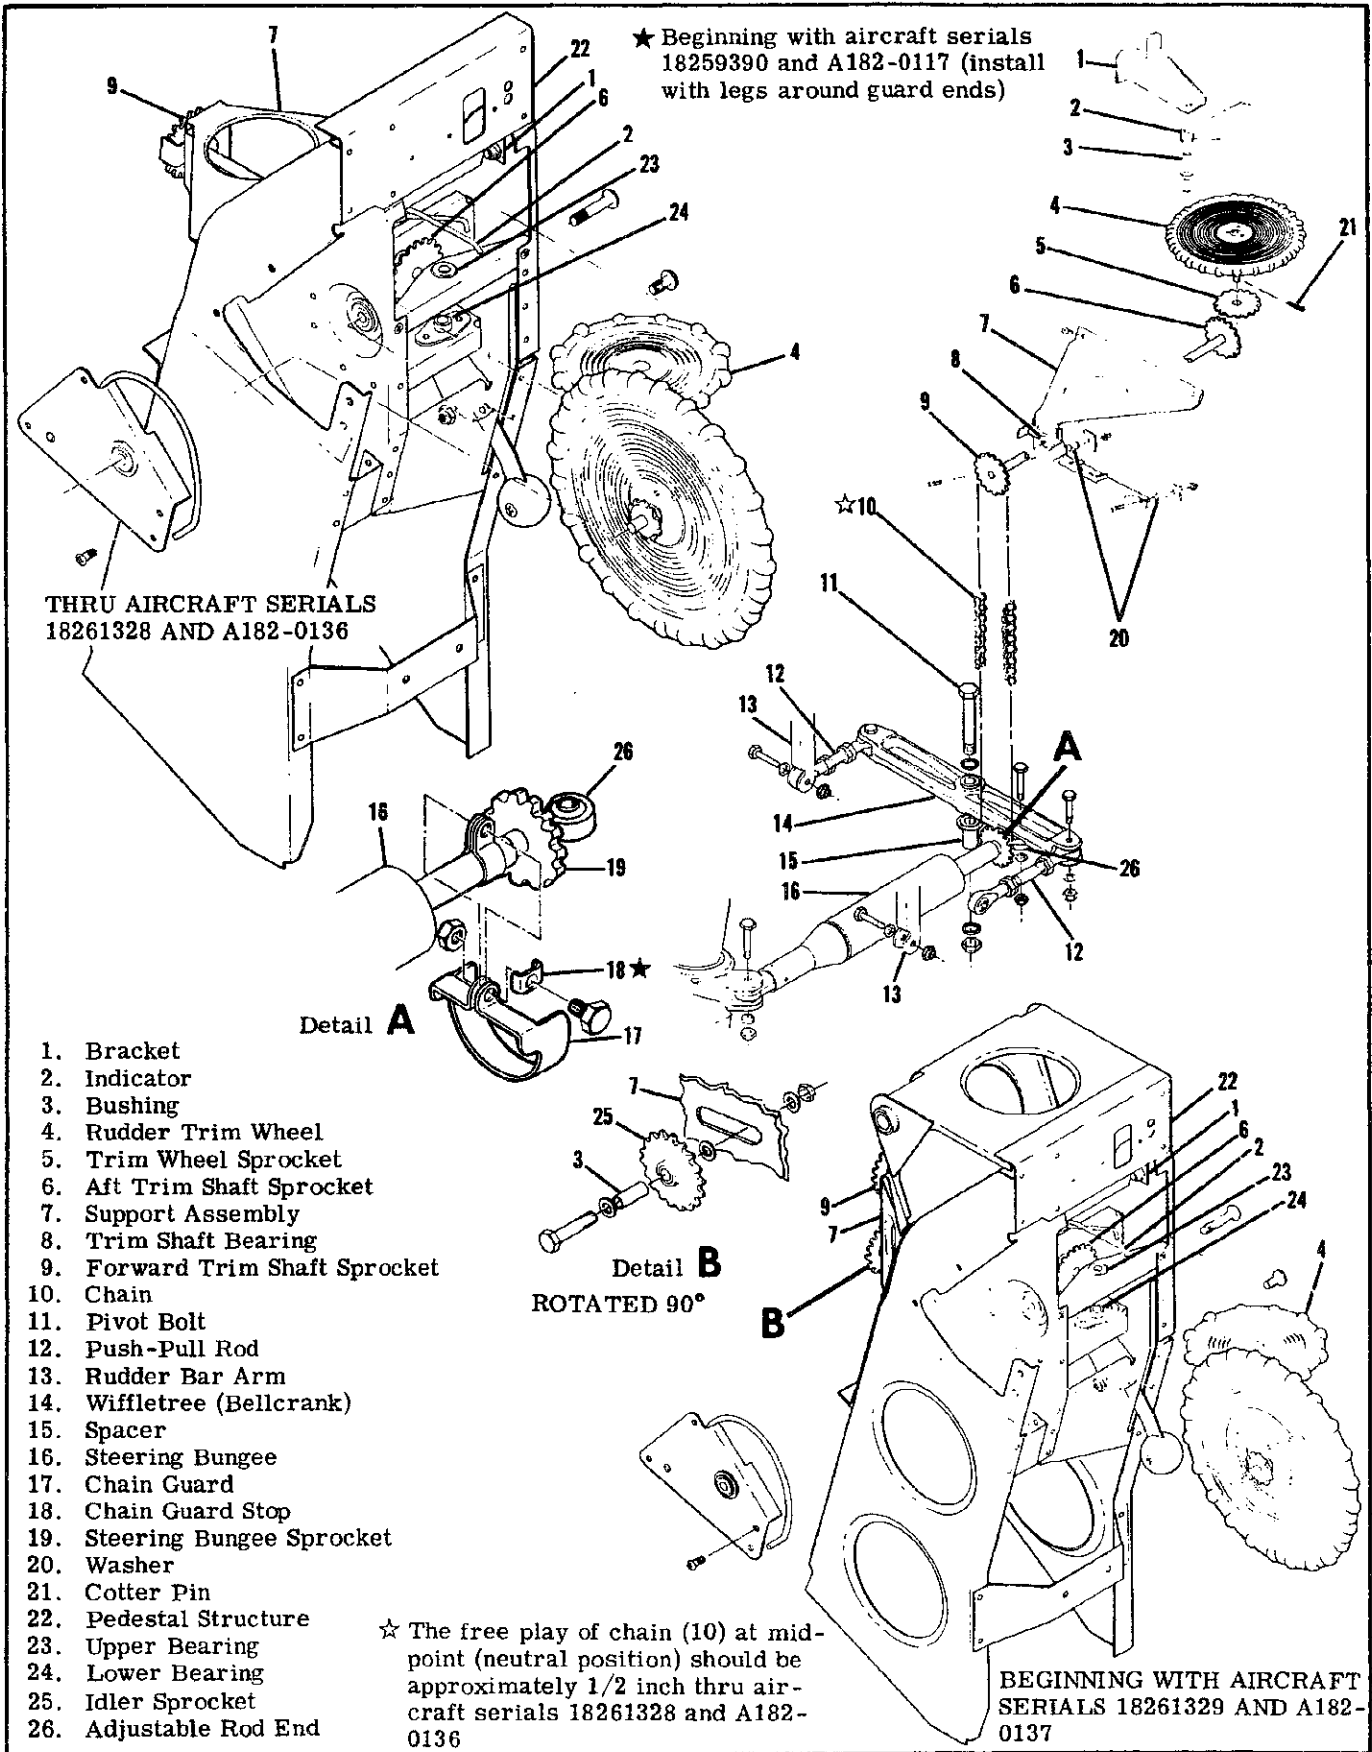

Figure 10-5. Rudder Trim Control System
- e. Disconnect cables (6 and 7) from rudder bar arms (8).
- f. Disconnect wiffletree push-pull rods (index 12, figure 10-5) at rudder bar arms (11).
- g. Remove bolts securing bearing blocks (10) and carefully work rudder bars out of tunnel area.
10-11. RIGGING. (Refer to figure 10-5.)
10-12. **RUDDER TRIM AND NOSEWHEEL STEERING SYSTEM.** (Refer to figure 10-5.)